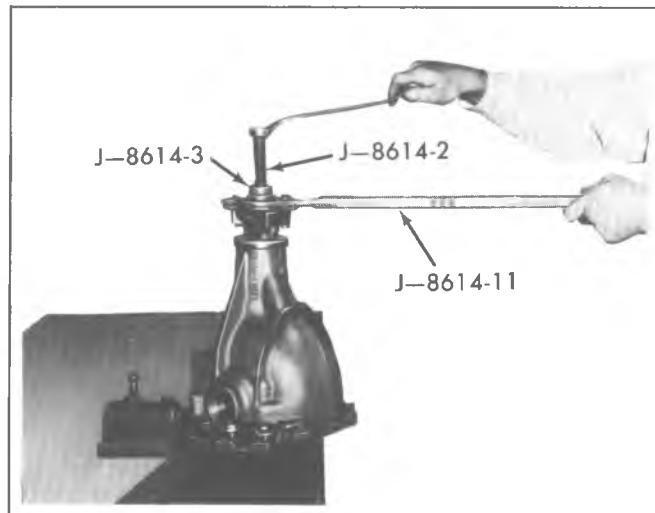

Fig. 16C--Removing Companion Flange
5. Thread end of J-8614-3 into small O.D. end of J-8614-2. Then with J-8614-11 installed as in Step 3, insert J-8614-2 into J-8614-11 and turn it 1/8 of a turn to locked position. Remove flange by turning J-8614-3 while holding J-8614-11 as shown in figure 16C.